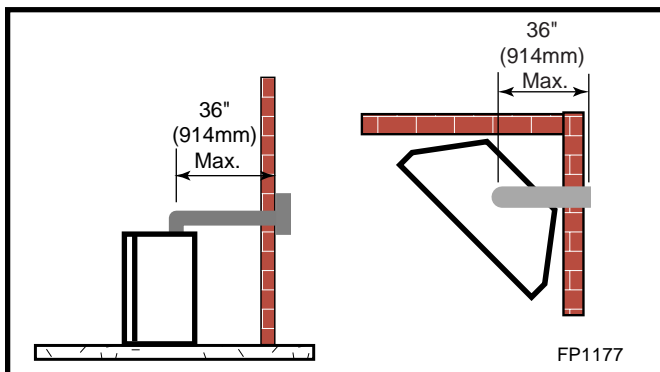

Fig. 25 Maximum horizontal run with no rise.
- If a 90° elbow is fitted directly on top of the fireplace flange the maximum horizontal vent run before the termination or a vertical rise is 36" (914mm). (Fig. 25)